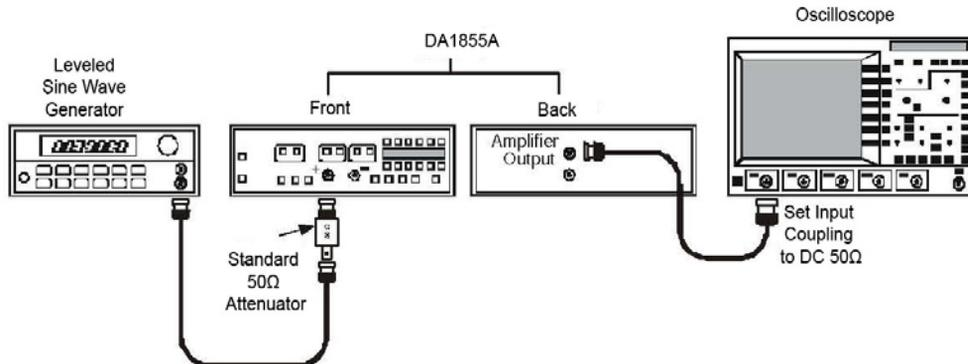

Figure 16, X1 Bandwidth Check Setup
- Insert a standard 50 Ω termination on the free end of the cable and connect the termination to the **+INPUT** of the DA1855A. Refer to Figure 16.